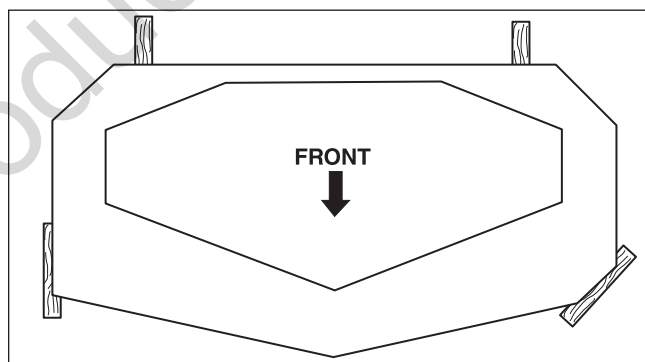

Figure 24. 2x4 Position
3. Place 2 x 4 blocks under each corner of the mower deck with the 3-1/2" sides being vertical. See Figure 24.